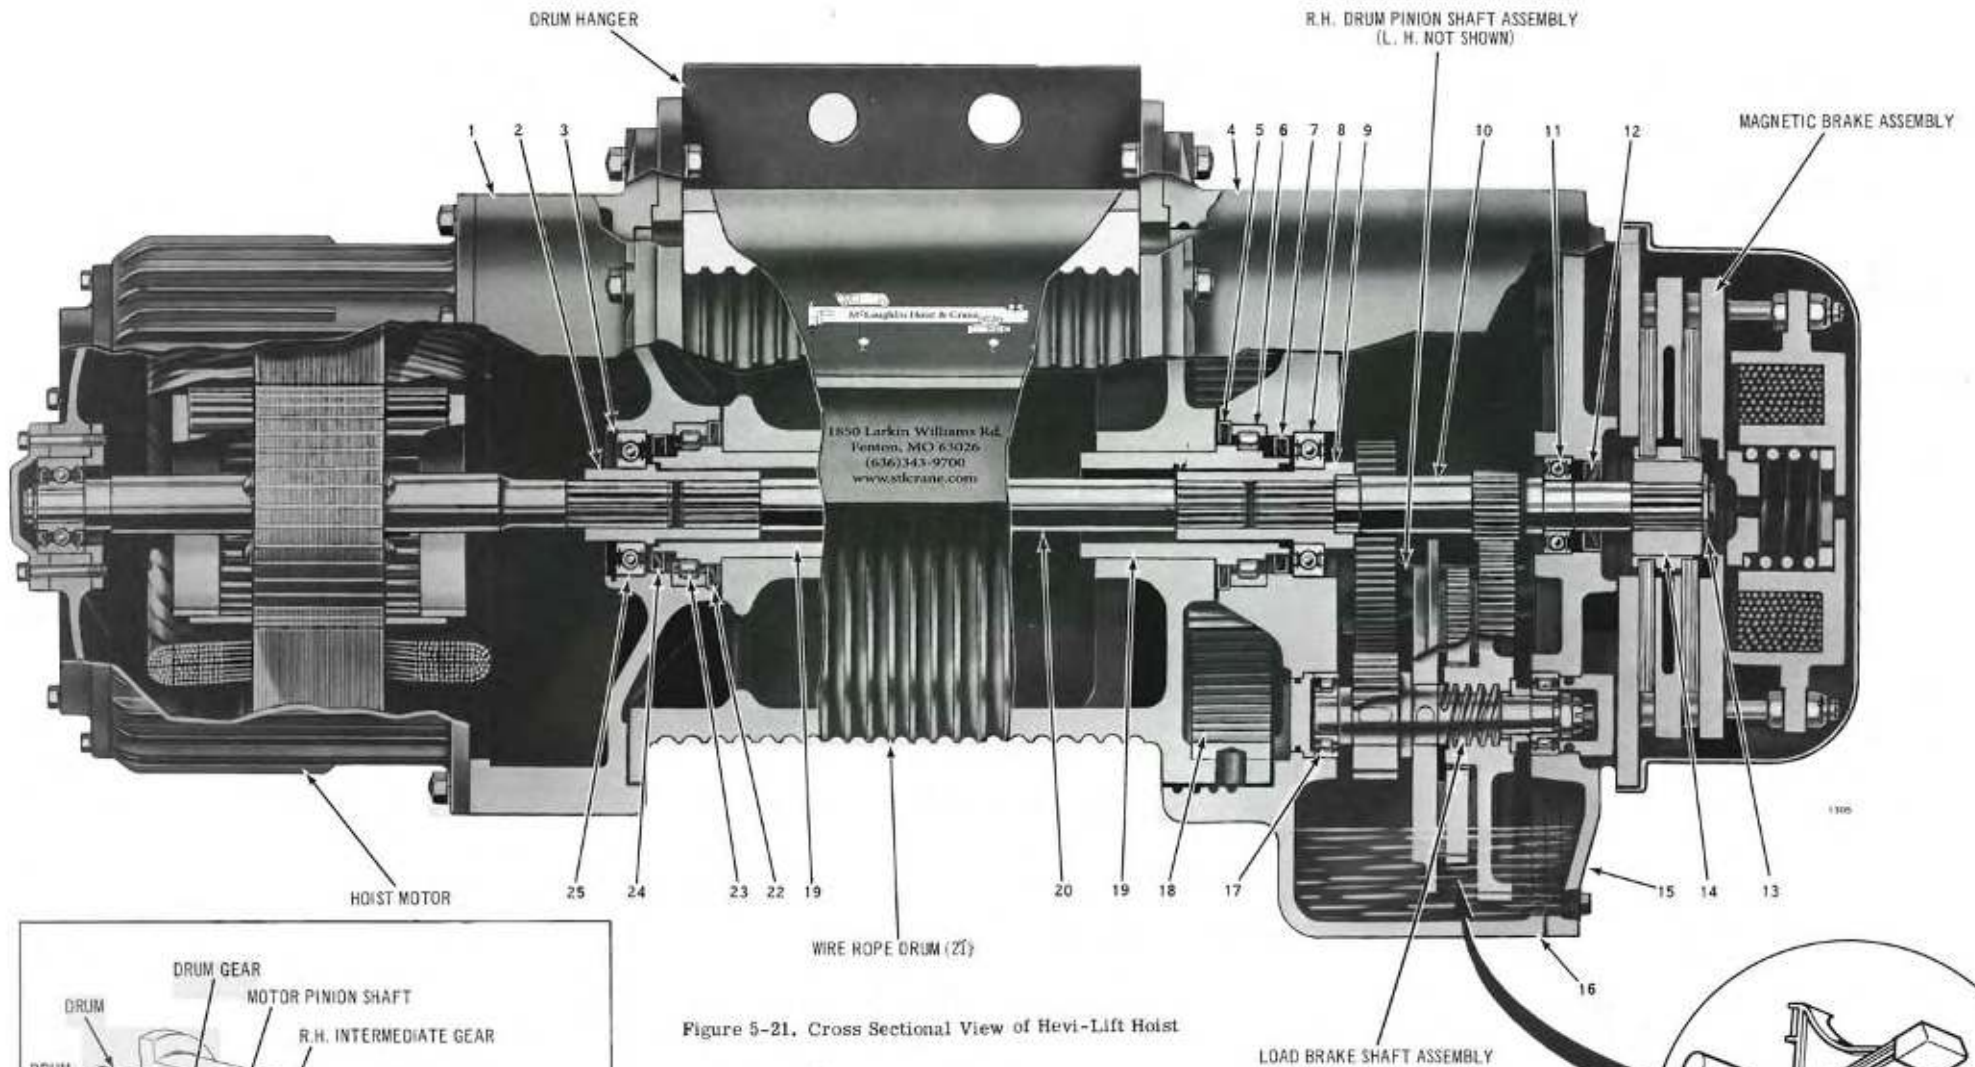

Figure 5-21. Cross Sectional View of Hevi-Lift Hoist
HOIST ASSEMBLY. The assembly procedures here will describe the sequence of assembly for a hoist that has been completely disassembled. If repairs were made to only part of the hoist, refer to the portion of these procedures which apply to the area of the hoist that was worked on. Unless otherwise indicated, all references will be to Figure 5-21.
9. Press bearing (11) on motor pinion shaft (10) and install shaft in the splined coupling in the center bore of the gear case; Figure 5-21.
11. Coat the gear case/cover mating faces with No. 2 Permatex (non-hardening) and then place a new gasket (Figure 5-21, 16) on the gear case.